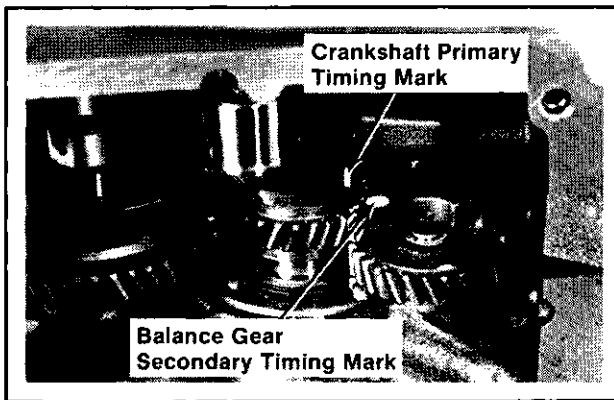

Figure 12B-15. Checking Crankshaft And Balance Gear Alignment.
- The primary timing mark on crankshaft should align with the timing mark on camshaft. Refer to Figure 12B-14.